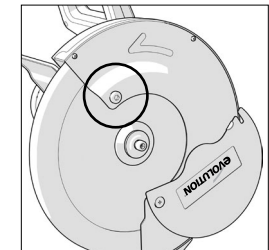

Fig. 2
- Loosen the fastener screw securing the arbor guard and rotate the guard upwards to reveal the machine's arbor. **(Fig. 2)**